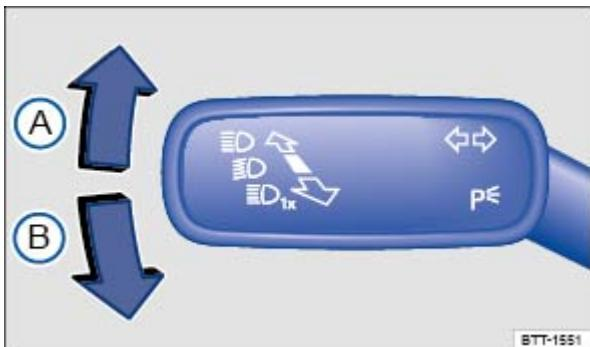

Fig. 89 To the left of the steering wheel: Turn signal and high beam lever.
- Move the turn signal and high beam lever ⇒ Fig. 89 to position: